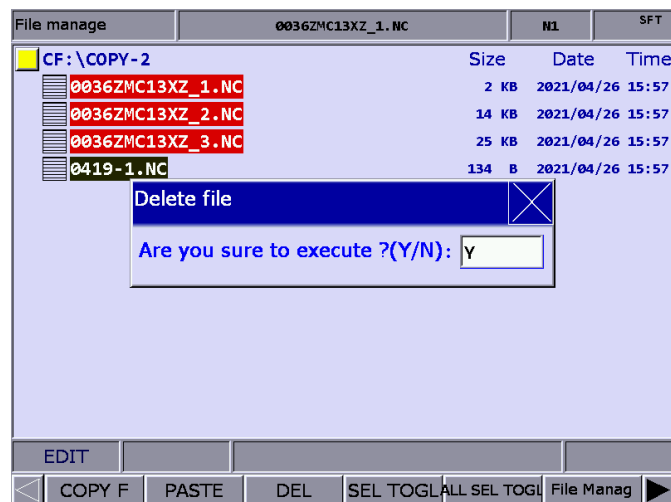

Figure 7.6.3
- (1) Set the system to EDIT mode.
- (2) Press **PRG** to switch to the PRG screen.
- (3) Enter the directory where you desire to select the files.
- (4) In the File manage screen, press **↑** and **↓** or **PAGE UP** and **PAGE DN** to move the cursor to the file to be selected. To select a file, press **SEL TOGL**. To cancel the selection, press **CANCEL**.
- (5) After selecting multiple files, press **DEL**, and a dialog box appears for you to confirm the execution (as shown in Figure 7.6.3). Enter "Y" and press **ENTER** to delete.